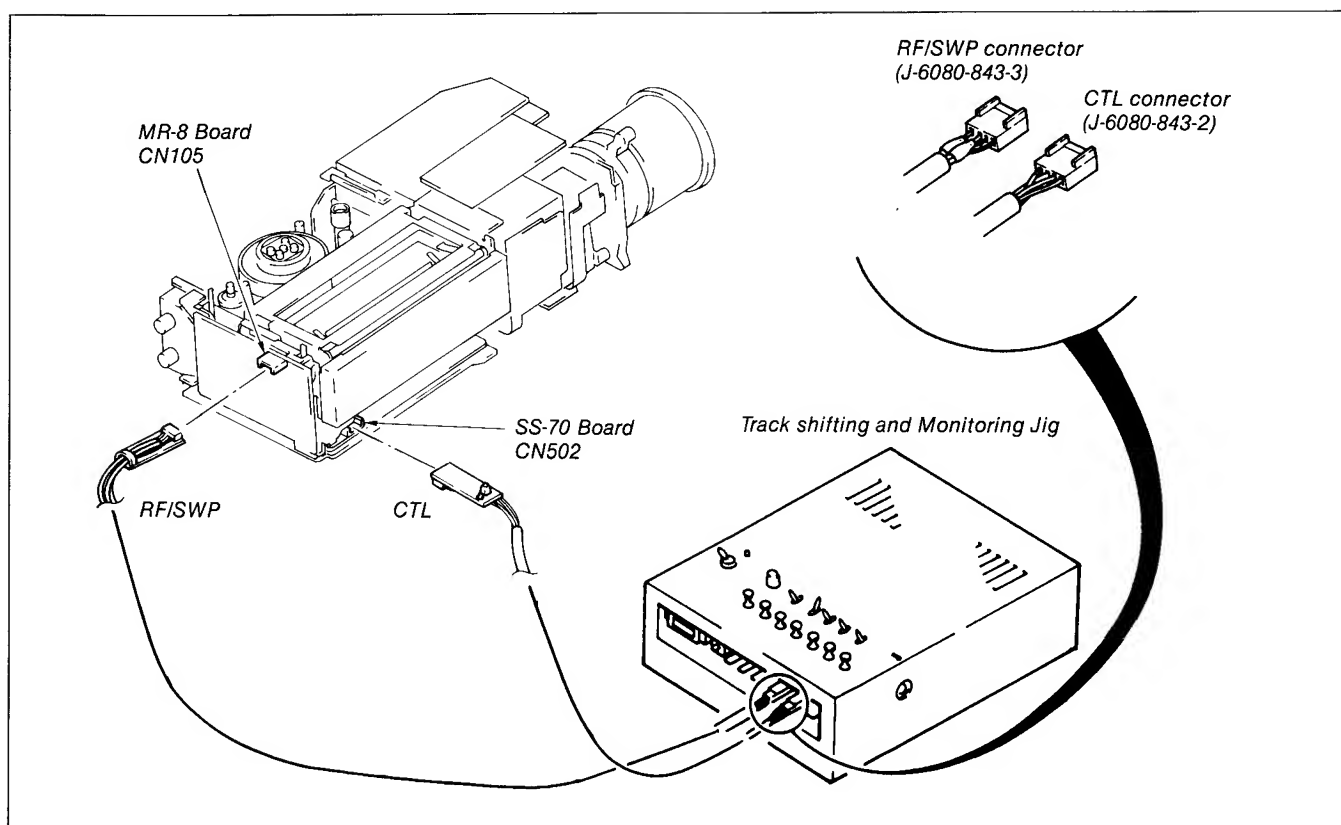

Fig. 8-50.
- 2) Connection of the connector (See Fig. 8-50)